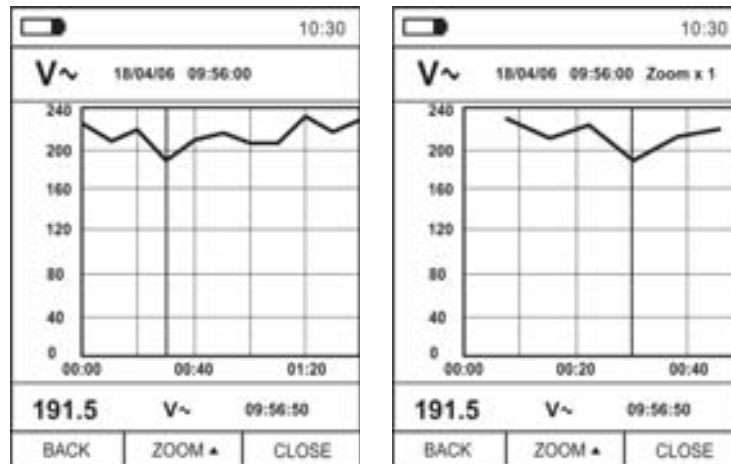

Fig. 39: Data logger function – Display of recording graph
17. Press key **MODE (TREND)** to display the graph of the recording and the relevant trend over time (Trend). The screen in Fig. 39 – left side appears on the display.
19. Press key ▲ (**ZOOM**) to activate (if available) the Zoom of the values on the graph (see Fig. 39 – right side) in order to increase resolution. The indication “Zoom xY” in which Y = max zoom dimension appears at the top of the display. You can zoom X1 for at least 10 measuring points, X2 for at least 20 measuring points, X3 for at least 40 measuring points and so on, for maximum 6 zooming operations.